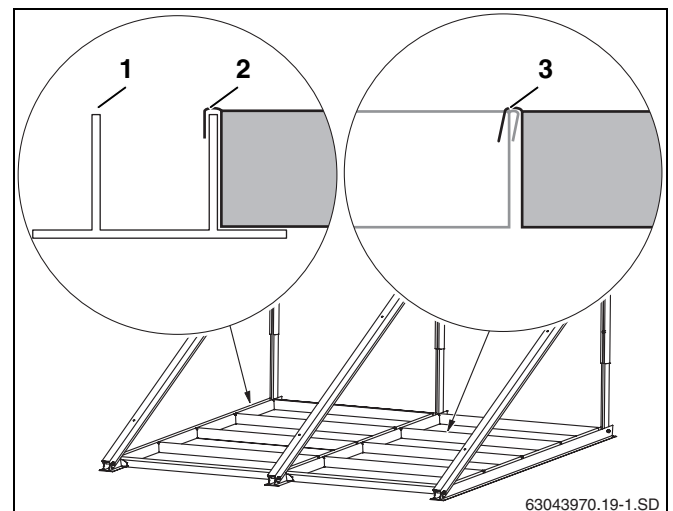

Fig. 27 4 loading trays per collector
- ▶ Insert loading trays (Fig. 27, **Item 2**) into lower profiles (Fig. 27, **Item 1**) and into each other (Fig. 27, **Item 3**).